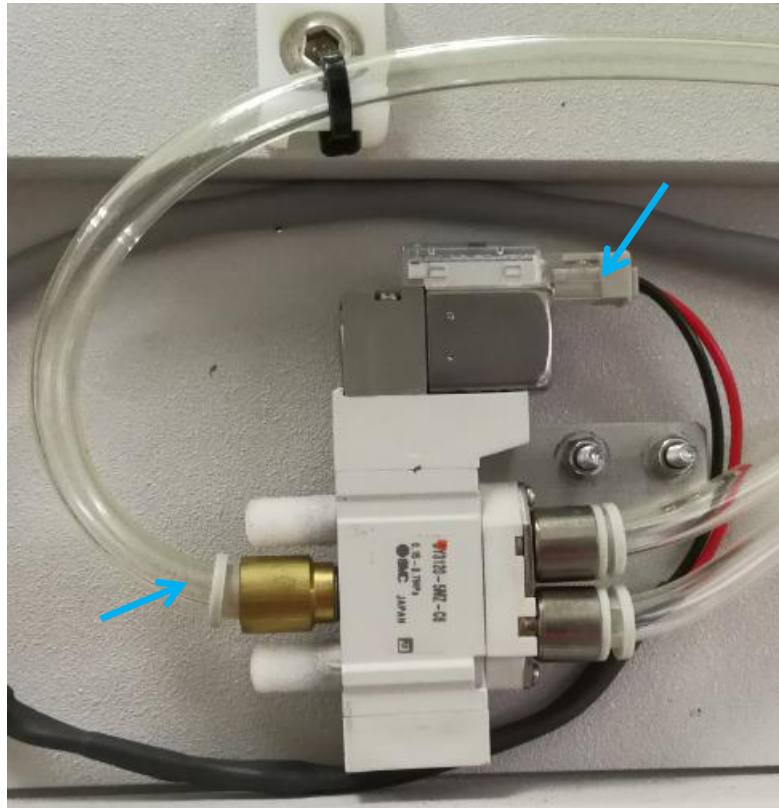

Figure 1
5. Remove Main Tubing & Input Cable as Figure 1.